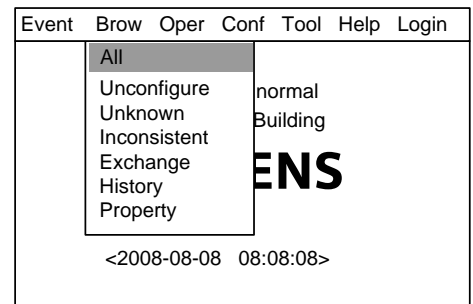
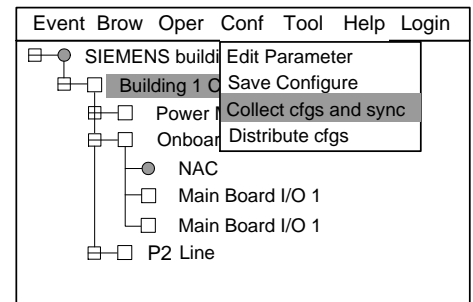

Fig.36-2
Fig.36-3
2. Press “→” to select “Brow” submenu (Fig. 36-2). Select "All" and then press “OK”. Now the tree diagram will be displayed in the window (Fig.36-3).
4. Select the host machine in the tree diagram, then press “Menu” to browse the main menu, and press “→” to select “Collect cfigs and sync” (Fig.36-3) submenu to start collecting the configuration and sync.